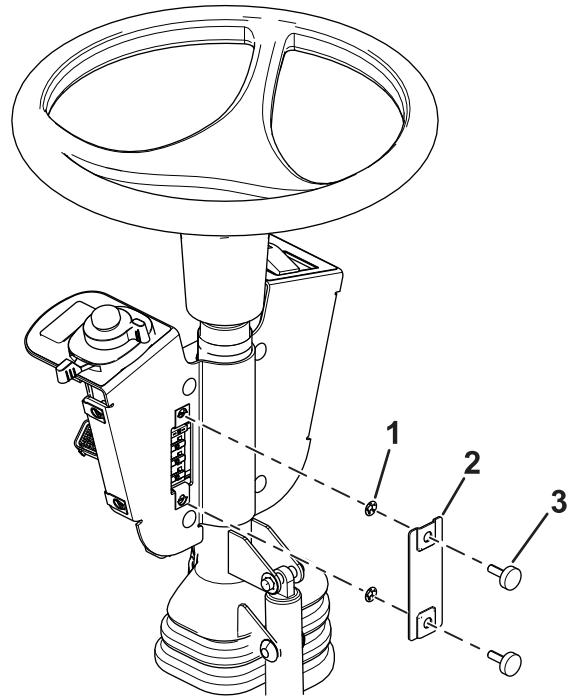

Figure 12
- Install the fuse cover to the switch mount using 2 thumb screws and 2 push nuts (Figure 12).
Note: Ensure that the push nuts are installed on the inside of the fuse cover (Figure 12).